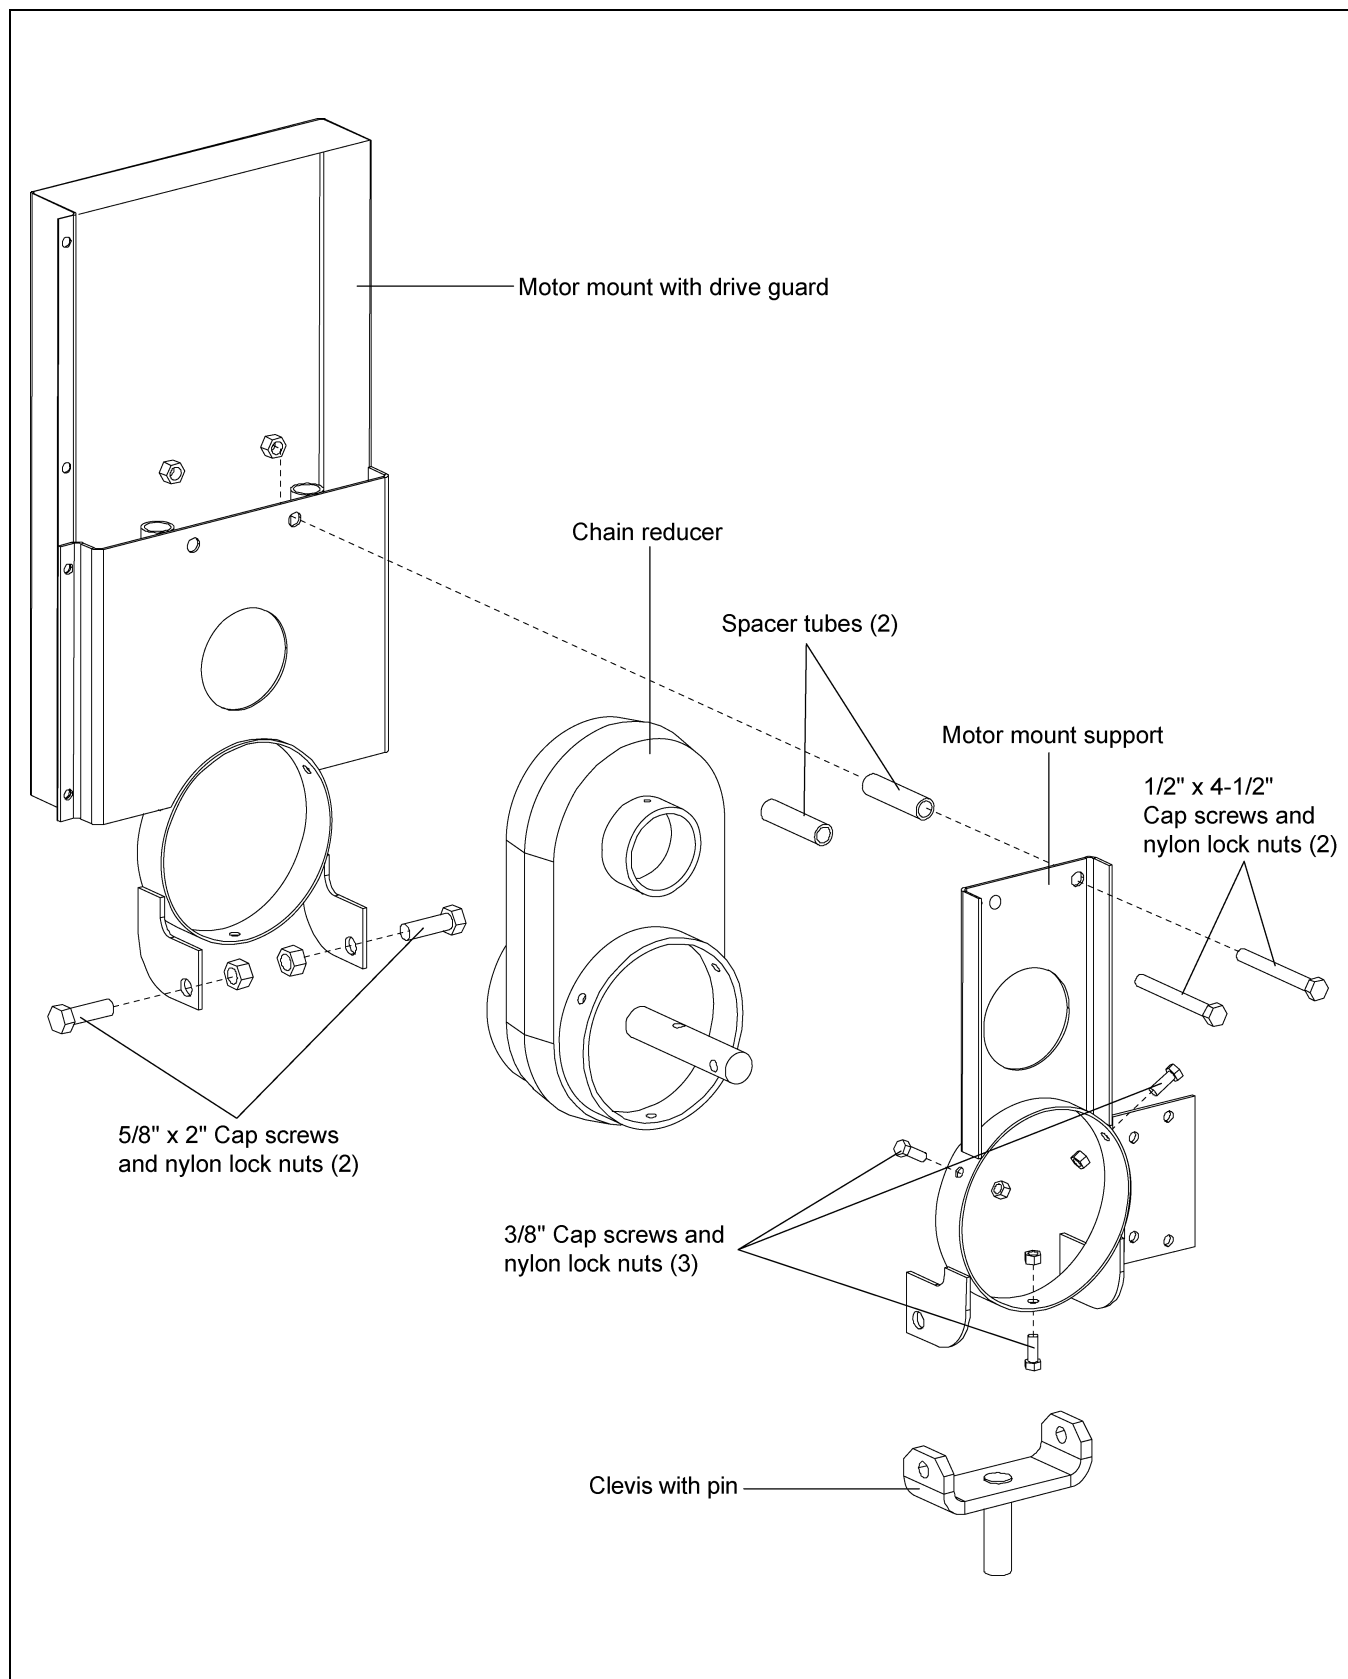

Figure 4B
2. Assemble the belt guard and mount frame, enclosed chain drive, sweep shield and drive frame and center pivot weldment together as shown in Figure 4B on Page 15.